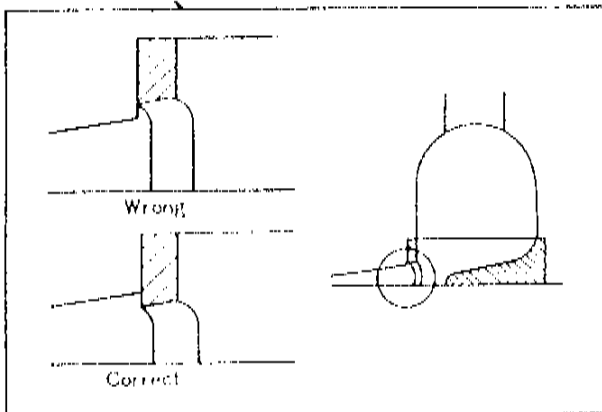

Fig. 1-14
2. Locate new insert on the cylinder head as shown in Fig. 1-14 with the Welch washer which fits in a recess provided.